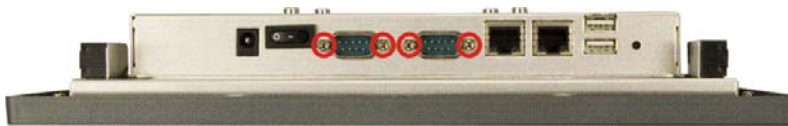

Figure 4-11: Four Hexagonal Pillars on the Bottom Panel (AFL-12A-LX)
Step 2: Remove the four hexagonal pillars on the bottom panel (Figure 4-11).